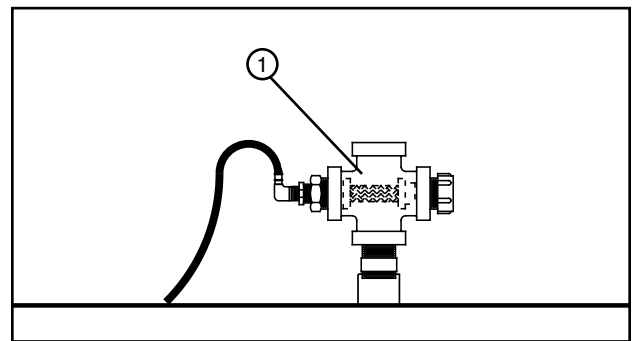

Figure 107-2 1. Cross Filter
- Clean the end gun shut off solenoid valve cross filter or optional dirty water filter. See Figures 107-2 and 107-3.